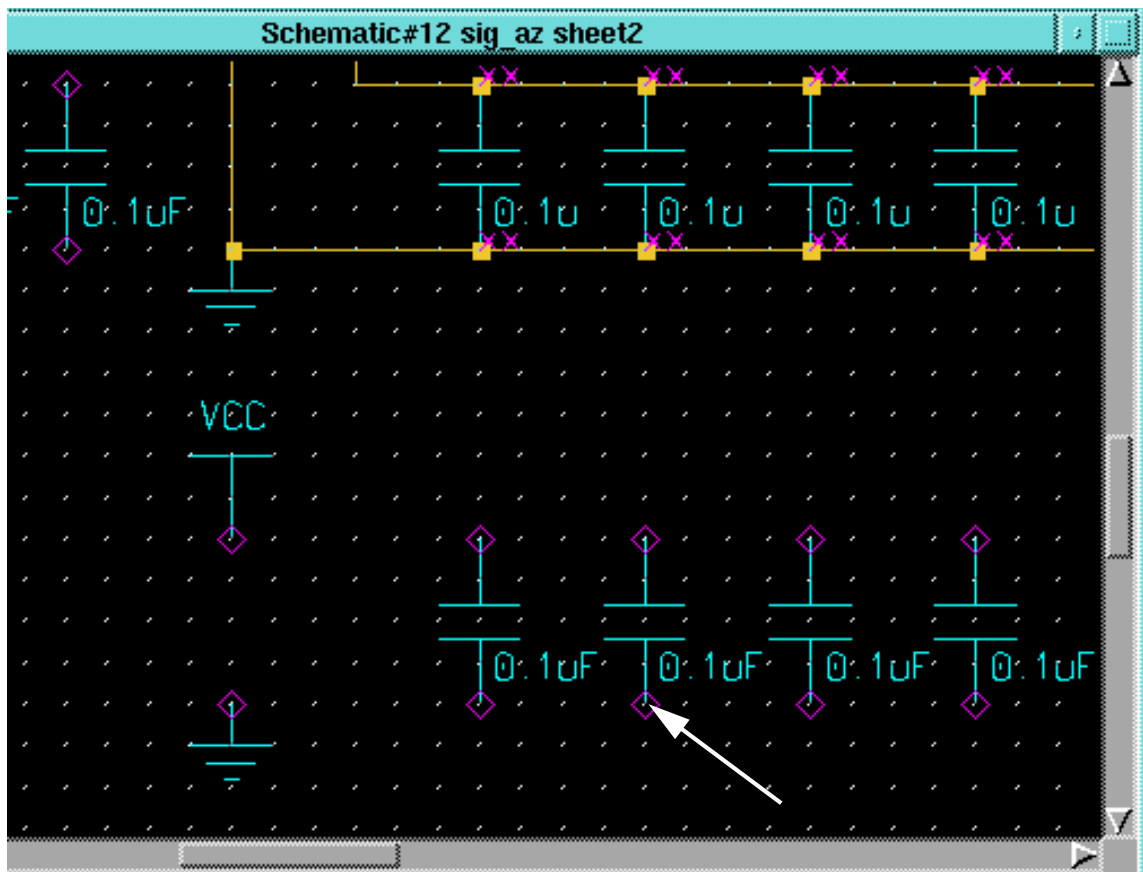

Figure 2-30. Specifying Placement for Copy Multiple
33. **OK** the prompt bar, drag the ghost image four grid points to the right of the first capacitor, as shown by the arrow in Figure 2-30. Click the Select mouse button. Press the Unselect All function key.